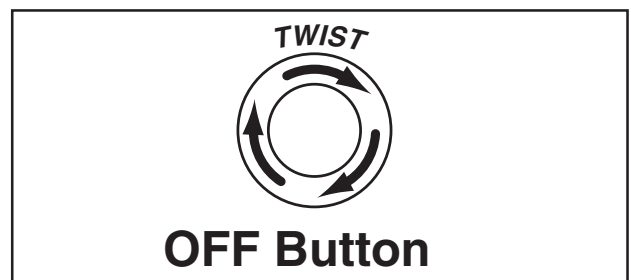

Figure 39. Resetting the switch.
7. Push the OFF button in, then twist it clockwise so it pops out. When the OFF button pops out, the switch is reset and ready for operation (see **Figure 39**).